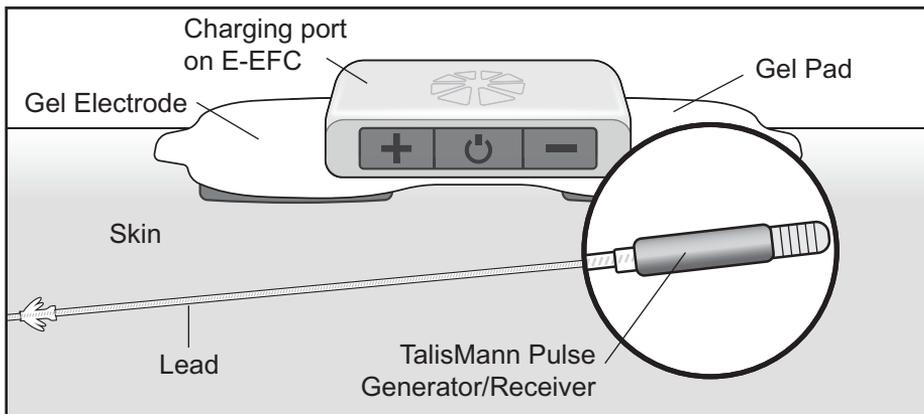

Figure 9-4: Optimal stimulation, position (Illustration not to scale)
4. There are two gel pads underneath the plus and minus buttons of the stimulator. The gel pad underneath the minus button should be placed on the skin above the TalisMann Pulse Generator and Receiver. See Figure 9-4.